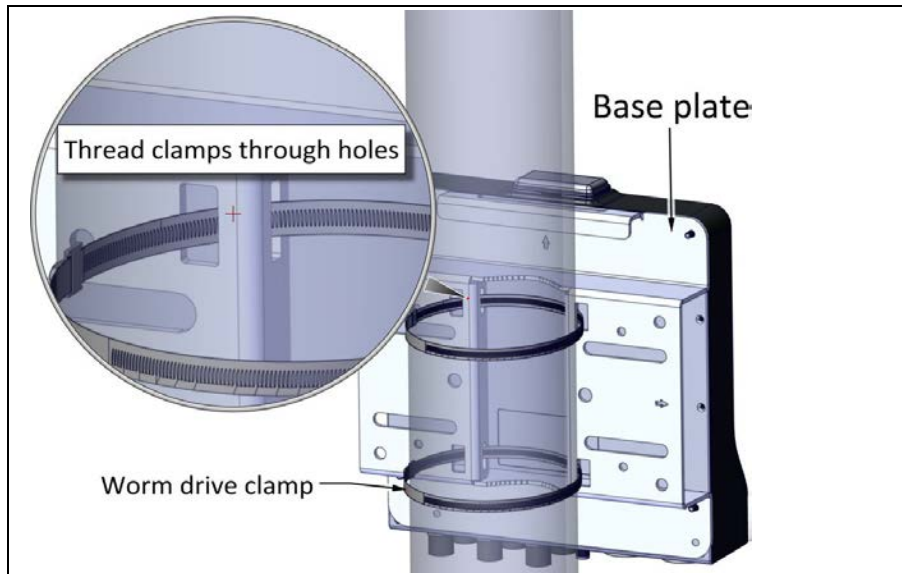
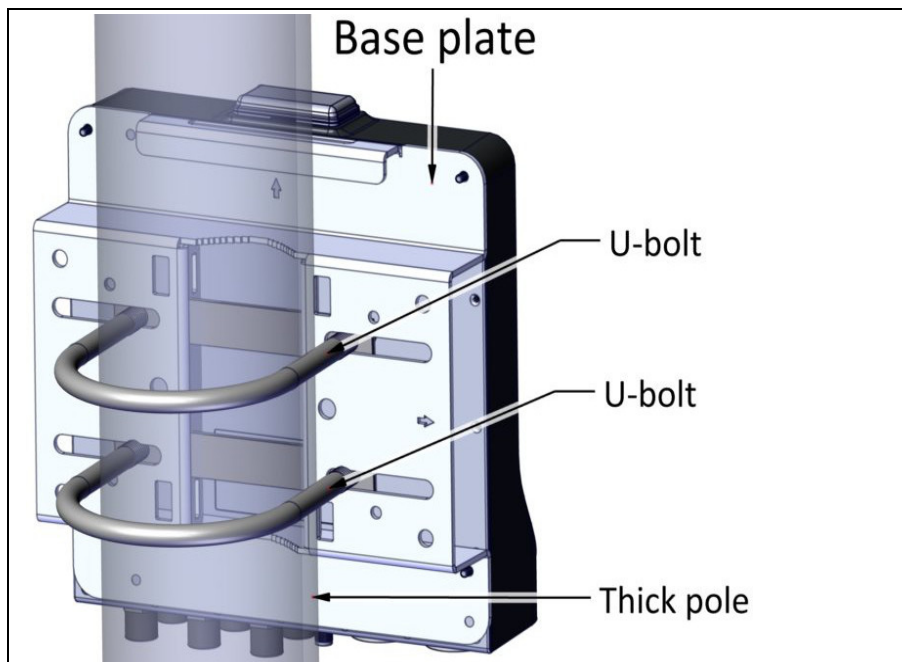

Figure 2-13: Using worm drive clamps for a thick pole
Figure 2-14: Using U-bolts for a thick pole
1. Diameter larger than 3: Use worm drive clamps (not supplied), threaded through the holes as shown in Figure 2-13, or U-bolts (not supplied), fastened using the holes as shown in Figure 2-14: